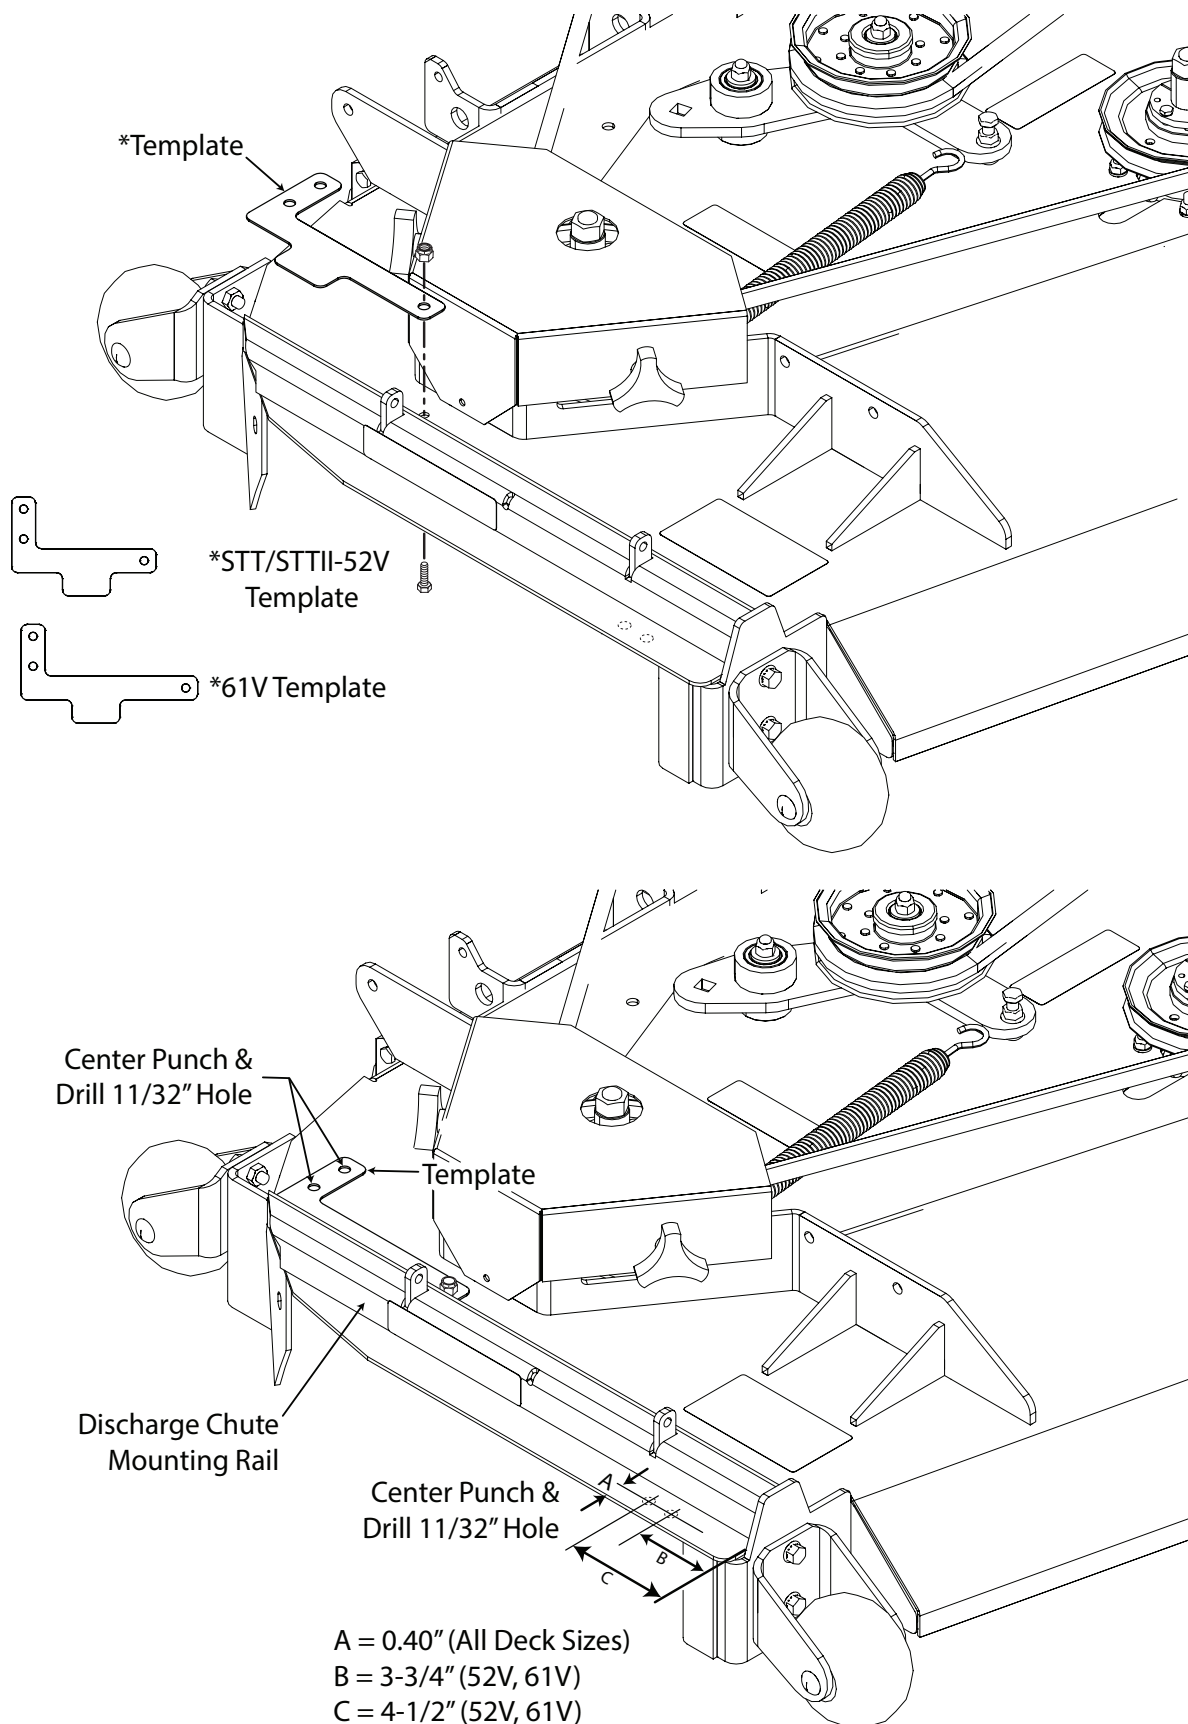

Figure 3-22. Locating and Drilling the Mounting Holes for SCZ-61V & STT/STTII-52V/61V
10. Install one (1) 5/16-18 x 3/4" bolt and one (1) 5/16-18 elastic stop nut. Do not tighten the hardware.
11. Install the template to locate the mounting holes for the lever assembly. Secure to the cutter deck using the turbo baffle mounting hardware removed in step 3. See Figure 3-22, Page 17.
12. Hold the template against the discharge chute mounting rail and tighten the hardware. See Figure 3-22, Page 17.
13. Center punch and drill the mounting holes using an 11/32" drill bit. See Figure 3-22, Page 17.
14. Carefully lay out the remaining mounting holes for the front hinge bracket in the cutter deck. See Figure 3-22, Page 17.